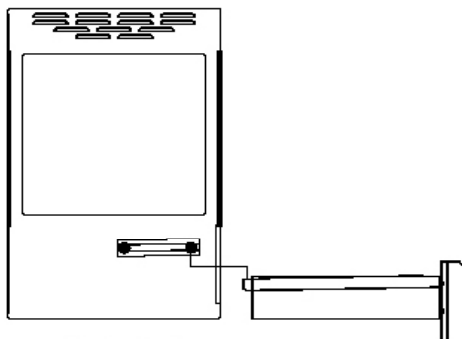
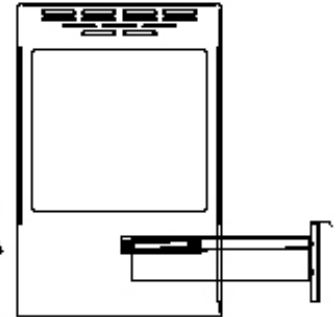

FIGURE 1
FIGURE 3
6. These models require the removal of the bun drawer to remove the bun pan. To remove the bun drawer, grab the drawer by both sides and pull it out all the way. Lift the front to unhook the drawer slide from rear drawer roller. Pull the drawer the remainder of the way out. Use caution not to drop the drawer when reaching the end of the drawer slide travel. To reinsert the drawer, first hook the drawer slide over the front roller then the back roller (See Figure1-Figure 3).